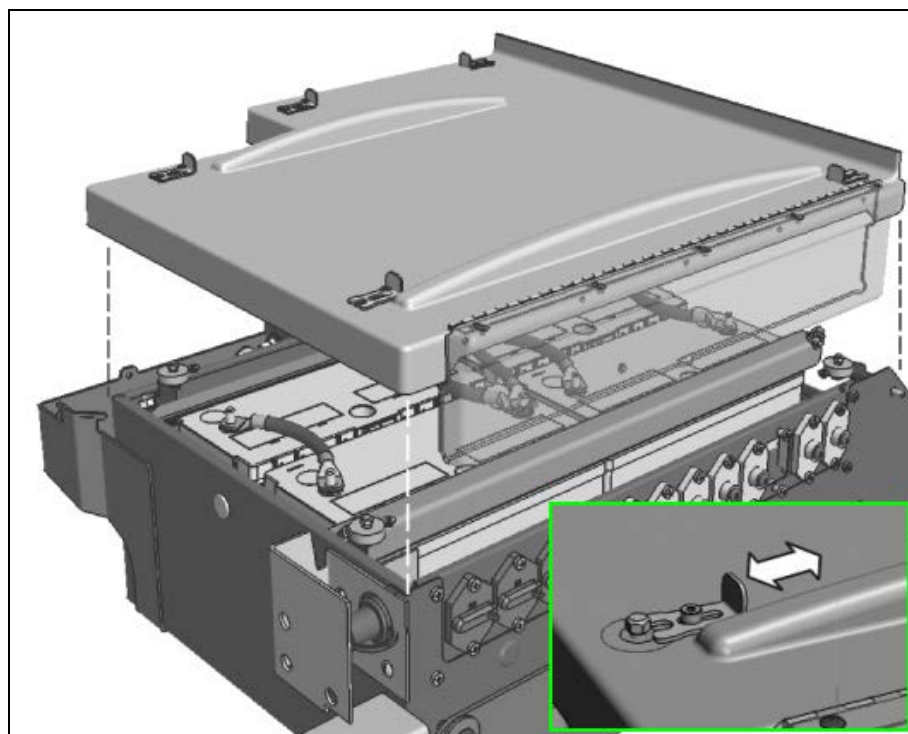

Fig.1 Removal of the five(5) latches cover.
1. In the vehicle right engine compartment, locate the battery box and remove the box cover (Fig.1).